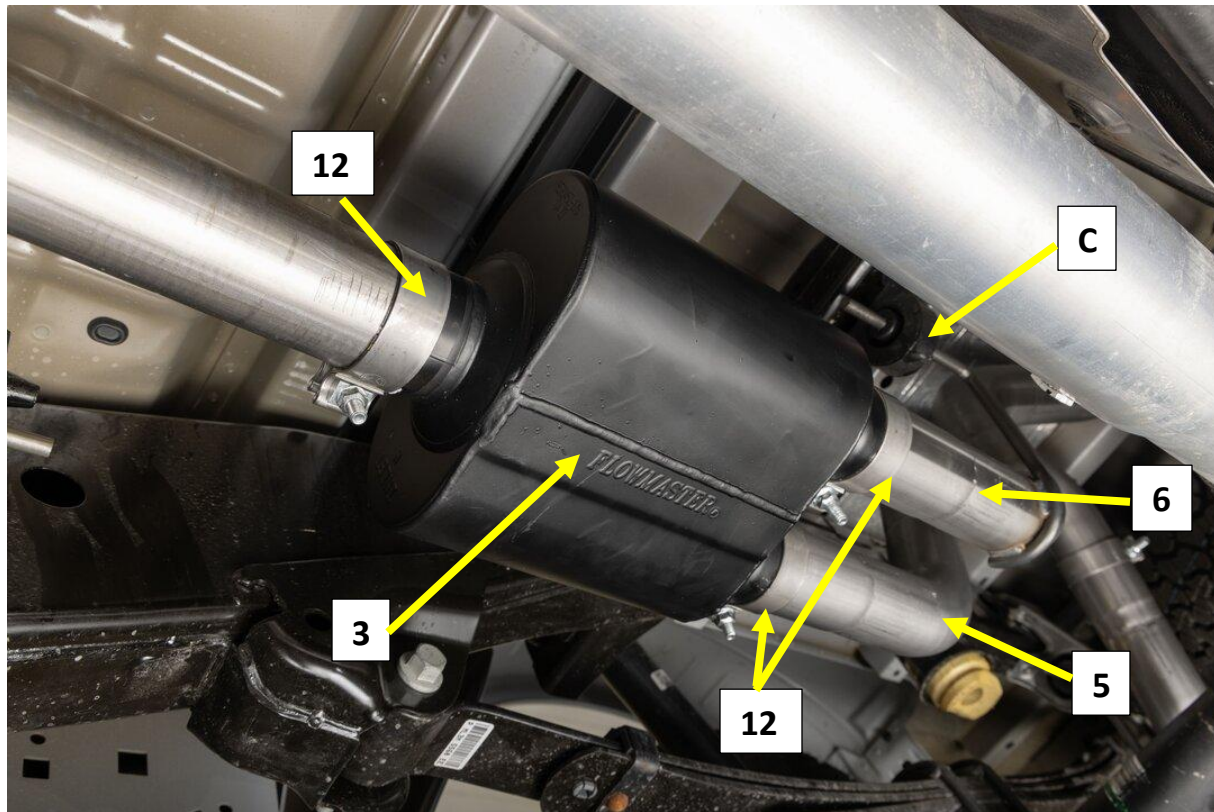

Figure.9
1. Install a 3" band clamp (12) on to each of the three-muffler inlet and outlet pipes with the bolt to the outside and the nut facing down. **Fig.9**
2. Install the American Thunder Muffler (3) on to the Muffler inlet pipe with the Flowmaster logo facing the ground. **Fig.9**
3. Tighten the inlet clamp (12) to allow for adjustment.
4. Reinstall the muffler hanger assembly (C). * Be sure the tab is in the Slot (not the round hole). **Fig.9**
5. Install the left Muffler Outlet Pipe (6) into the muffler while guiding the hanger rod into the Isolator(C). **Fig.9**
6. Install the Right Muffler Outlet pipe (5) into the muffler and tighten the clamp to allow for adjustment. **Fig.9**